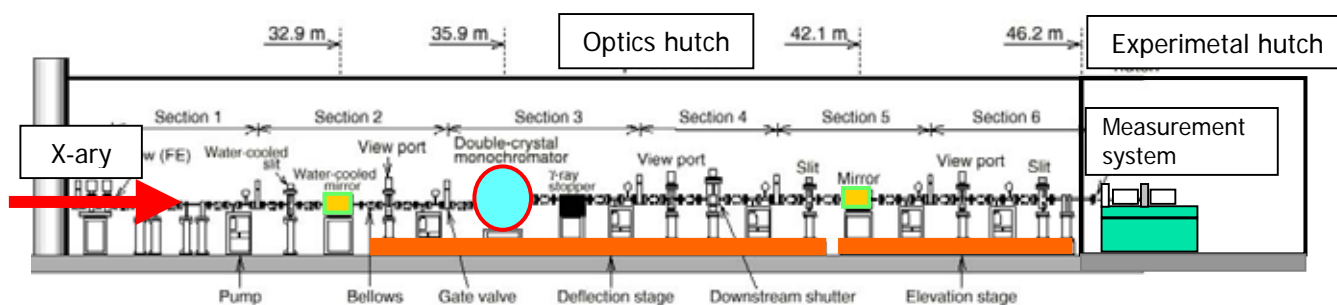

Fig. 1 Schematic layout of BL01B1
- Figure 1 shows schematic layout of BL01B1.
- Switch of diffraction plane of monochromator crystals between Si(111), Si(311) and Si(511) to cover energy range for XAFS measurements.